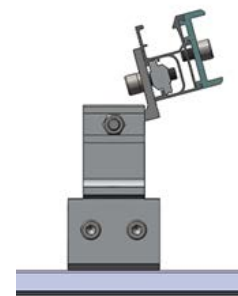

Figure 18
5.3.2 After confirming the position of Rail, fasten the Front and Rear Leg, as shown in Figure 18, 19 and 20.